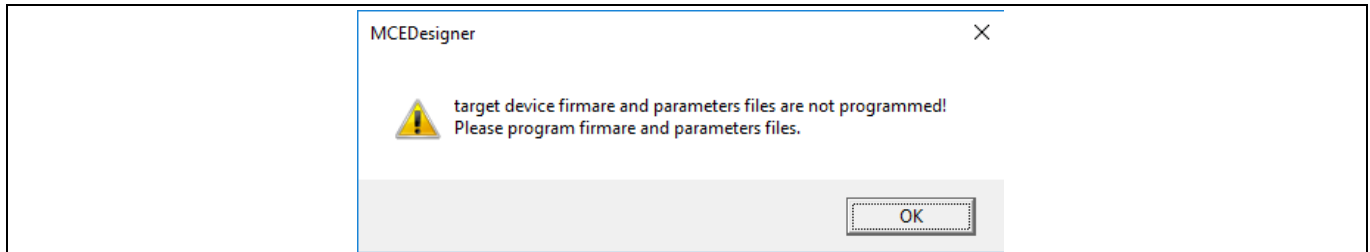

Figure 7 MCEDesigner warning message
8. *In case of blank IC: If the firmware has been erased from the IMC101T, a warning message will pop up saying “Target device firmware and parameters file are not programmed! Please program firmware and parameters file” (Figure 7). See step 9 on how to obtain/program firmware and parameters.*